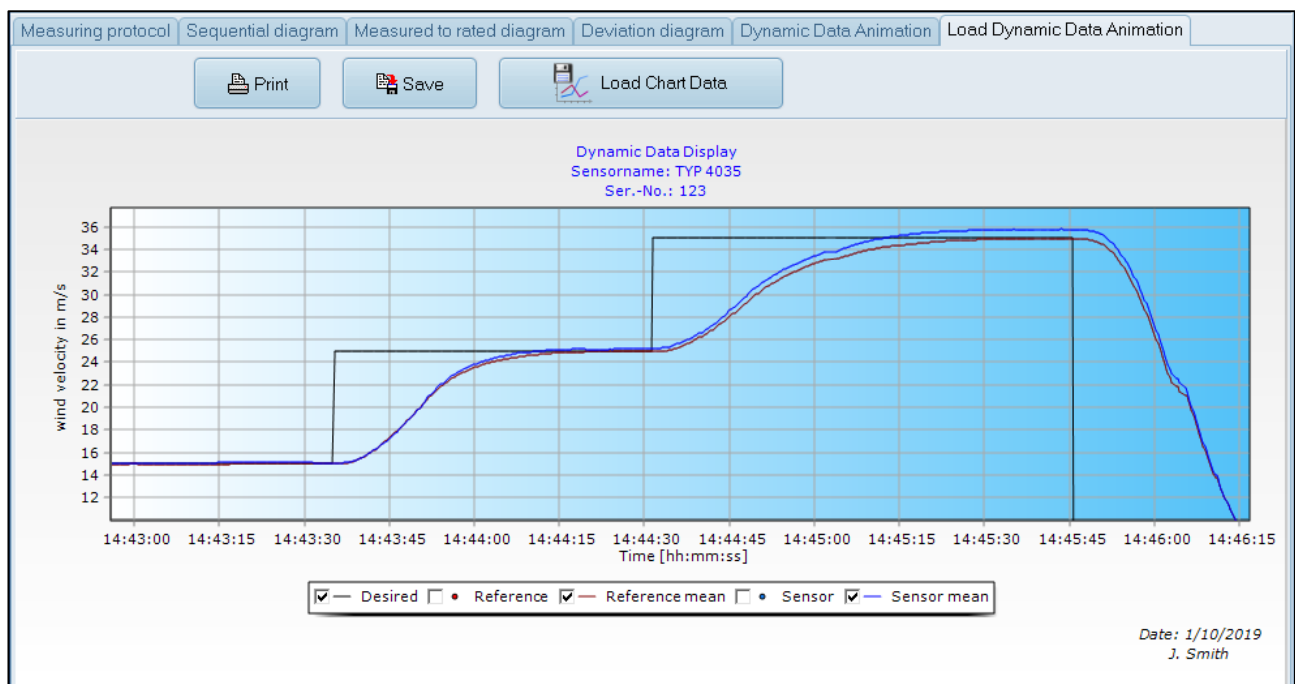

Figure 23: Zoomed area of loaded chart data
E.g.: There is a chart shown in figure 23 which is a zoomed area of the chart of figure 22.